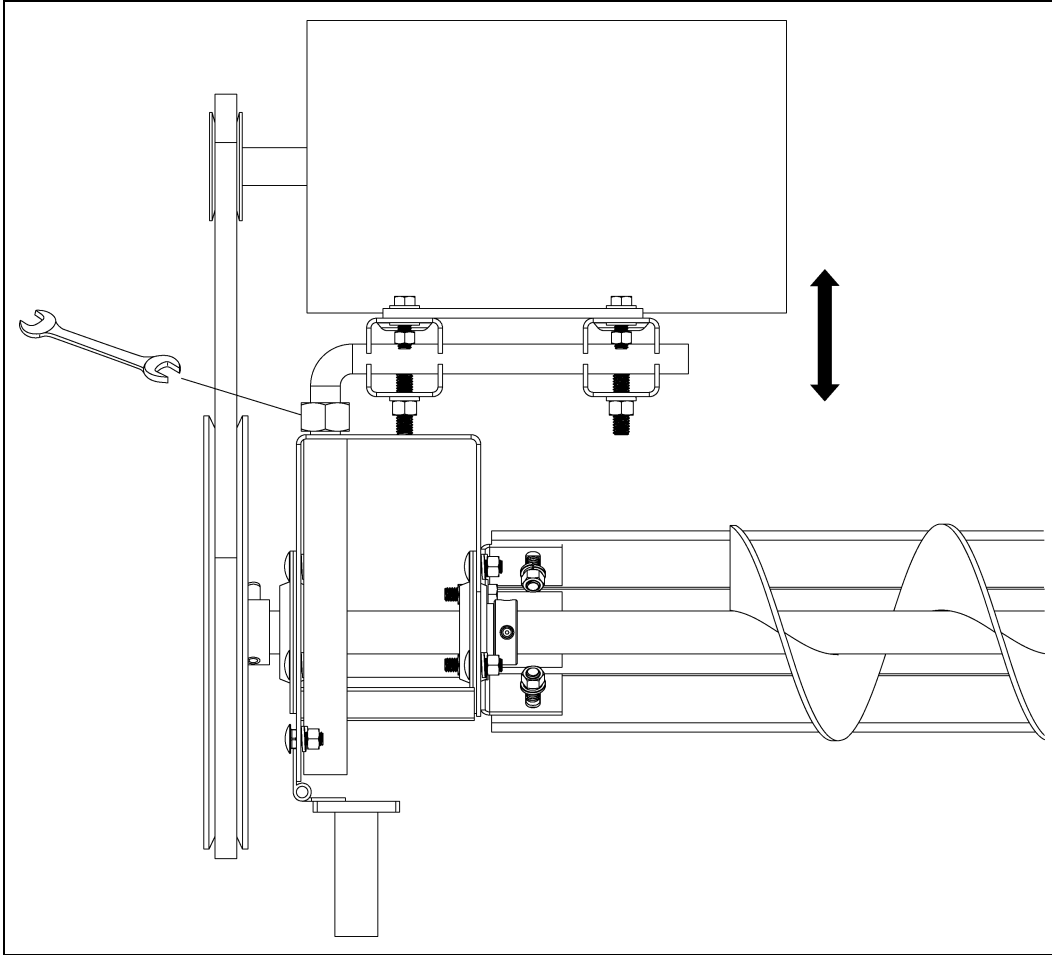
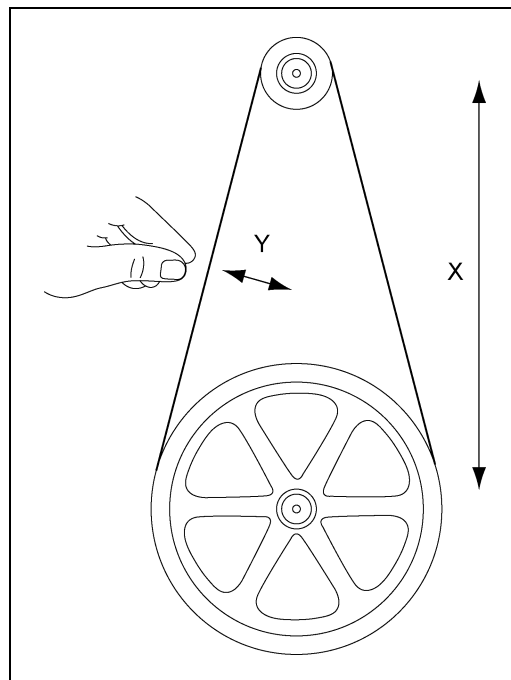

Figure 4V
Figure 4W $Y = X/60$
Step 22: Adjust belt tension. (See Figure 4V and Figure 4W.)